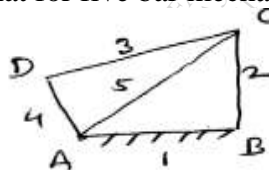

Figure 1
- Q.2 The dimensions of various links in a mechanism as shown in figure 1, are as follows 15